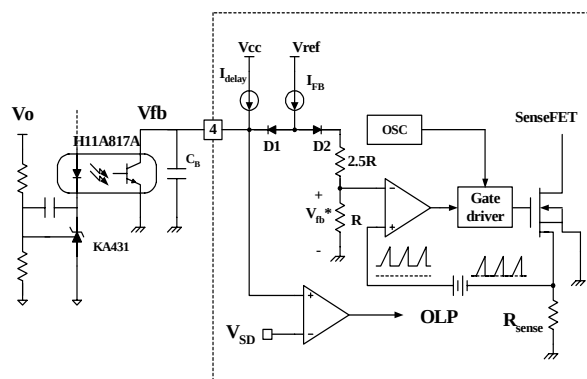

Figure 11. Pulse width modulation (PWM) circuit
3. Feedback Control : FSCQ1265RT employs current mode control, as shown in Figure 11. An opto-coupler (such as the H11A817A) and shunt regulator (such as the KA431) are typically used to implement the feedback network. Comparing the feedback voltage with the voltage across the R_{sense} resistor plus an offset voltage makes it possible to control the switching duty cycle. When the reference pin voltage of the KA431 exceeds the internal reference voltage of 2.5V, the H11A817A LED current increases, thus pulling down the feedback voltage and reducing the duty cycle. This event typically happens when the input voltage is increased or the output load is decreased.
3.1 Pulse-by-pulse current limit: Because current mode control is employed, the peak current through the Sense FET is limited by the inverting input of PWM comparator (Vfb*) as shown in Figure 11. The feedback current (I_{FB}) and internal resistors are designed so that the maximum cathode voltage of diode D2 is about 2.8V, which occurs when all I_{FB} flows through the internal resistors. Since D1 is blocked when the feedback voltage (Vfb) exceeds 2.8V, the maximum voltage of the cathode of D2 is clamped at this voltage, thus clamping Vfb*. Therefore, the peak value of the current through the Sense FET is limited.